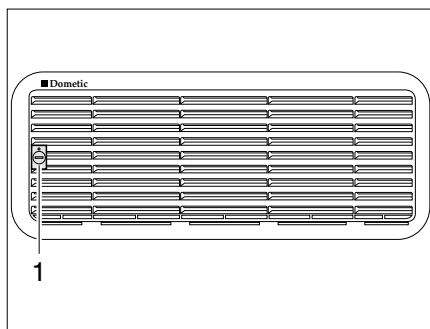
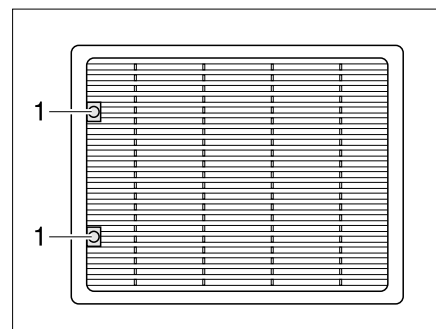

Fig. 328 Refrigerator ventilation grill (Dometic small)
Fig. 329 Refrigerator ventilation grill (Dometic large)
- Turn screw (Fig. 328,1 or Fig. 329,1) one quarter turn using a coin.